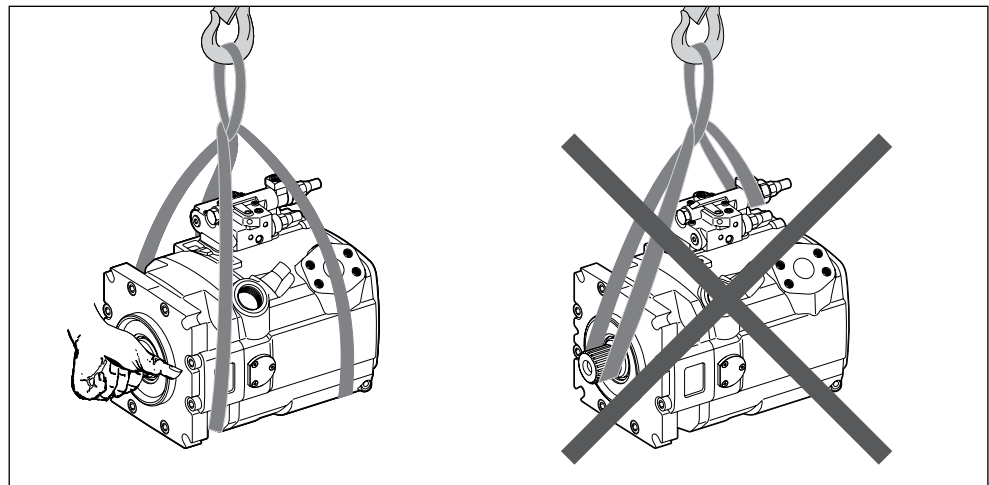

Fig. 7: Transportation with lifting strap
- ▶ Place the lifting strap around the axial piston unit in such a way that it neither passes over the attachment parts (e.g. valves) nor that the axial piston unit is hung from attachment parts (see Fig. 7).